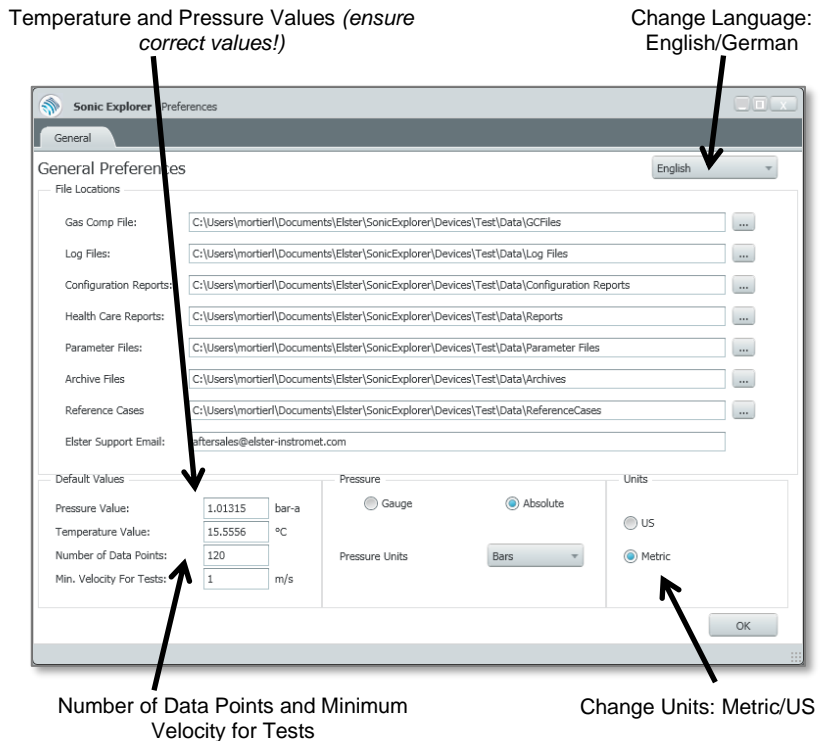

Figure 6-1 Edit General Preferences
Figure 6-1 shows the **General Preferences** window. This window contains most of the basic settings used in SonicExplorer.
- ✓ The **General Preferences** window will open as seen in Figure 6-1.